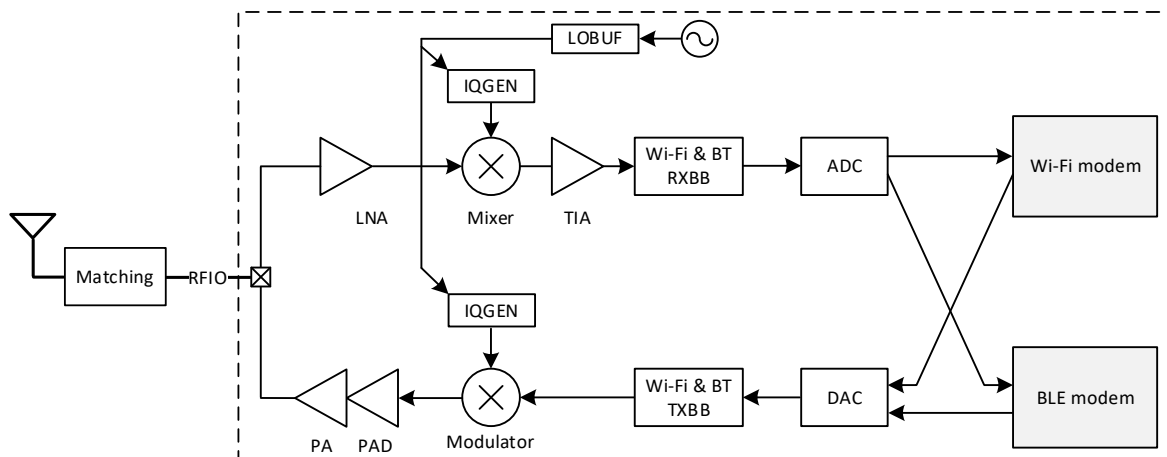

Figure 3-6 RF block diagram
The Radio Frequency (RF) block diagram of RTL8726EA, including WLAN and BLE modem, is given in Figure 3-6.